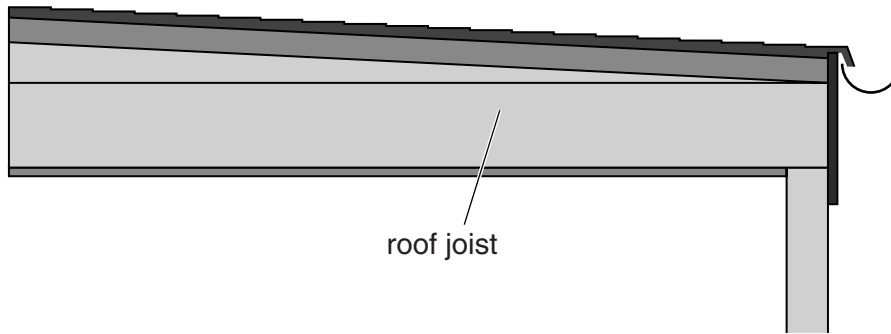

Fig. 1
Fig. 1 shows a flat roof structure.
(a) Give **four** justified design requirements for a flat roof structure of the type shown in Fig. 1.
- (e) (i) State a **suitable specific material** for the flat roof joists shown in Fig. 1.